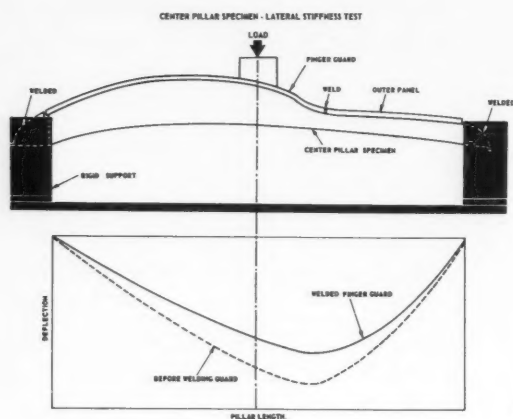

Figure 1.
Pillar test curves enable the engineer to isolate and correct a localized deflection area by adding a reinforcement or additional welds (Fig. 1). Acceptability of these changes is verified later on a road test car. (219)